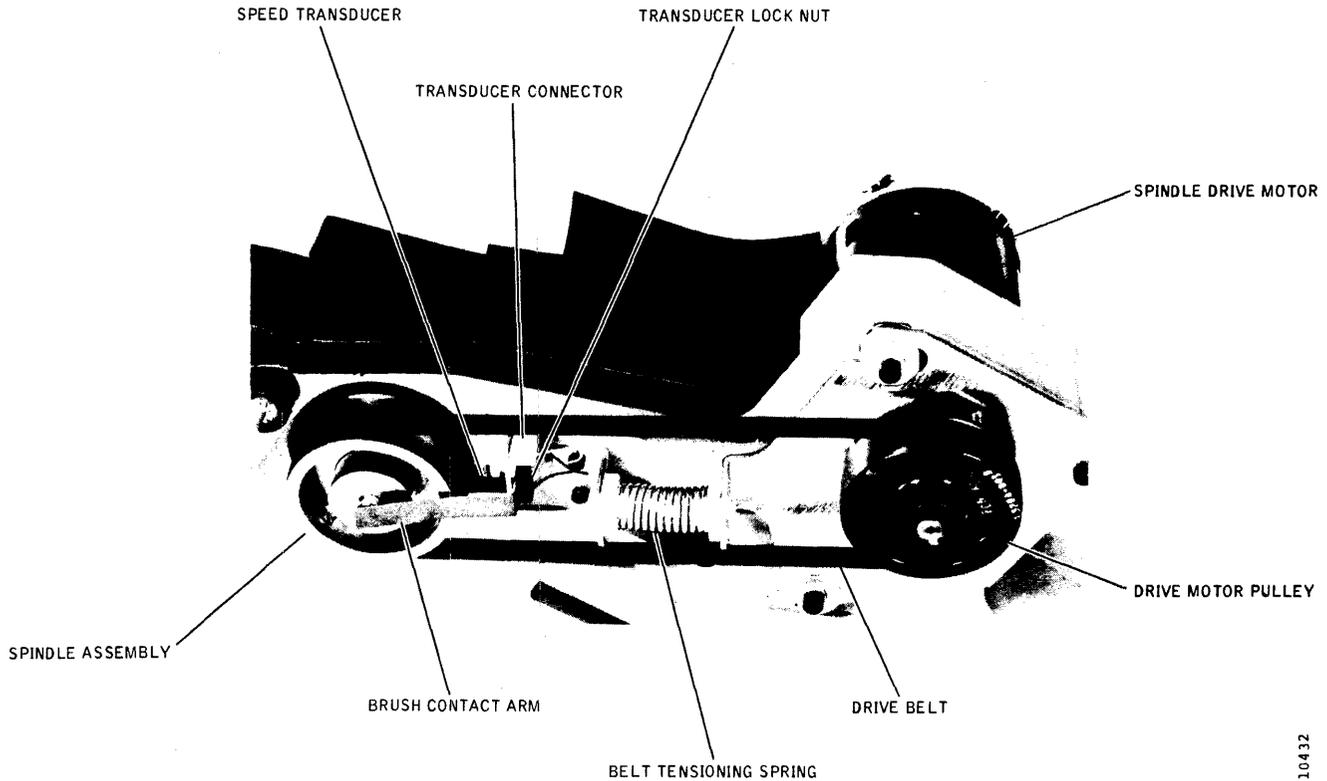

Figure 3-40. Spindle Drive Component Locations
transducer, spindle grounding brush, and a spindle lock assembly. See Figure 3-40. Checkout, adjustment, and replacement procedures for these components follow.
3. Pull the spindle drive motor toward the spindle (Figure 3-40) and against the tensioning spring to slacken the belt, and slip the belt off the motor pulley.
3. Disconnect the transducer lead connector. Refer to Figure 3-40.
5. To adjust the gap between the transducer and the spindle, loosen the locknut (see Figure 3-40) on the bracket end of the transducer, turn the threaded transducer to move the transducer toward or away from the spindle until it lightly contacts a feeler gauge of 0.006-inch-thick nonmagnetic shim stock, and tighten the locknut.
5. Remove the transducer from the bracket by loosening the locknut on the bracket end of the transducer and unscrewing the transducer. (Refer to Figure 3-40.)